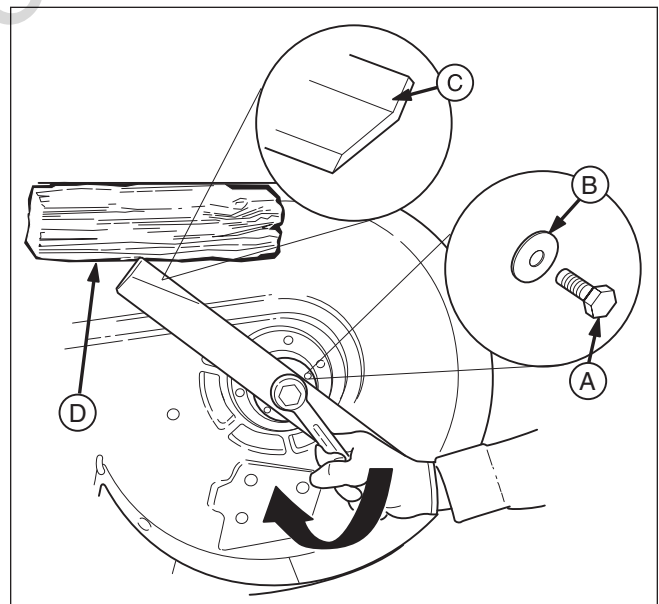

Figure 31. Tightening the Mower Blade for Installation
1. Reinstall each mower blade with the air lifts pointing up towards the mower deck as shown in Figure 31. Secure with the mower blade mounting bolt and flat washer (A & B, Figure 31) and torque to 70 ft. lbs (94 Nm).